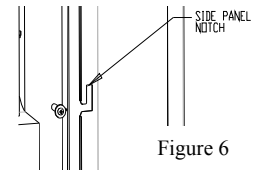

Figure 6
5. Lift the panel up high enough to clear the plastic base, then slide it away from the unit. There is a post near the center of the front panel that the side panel slides over (see figure 6).